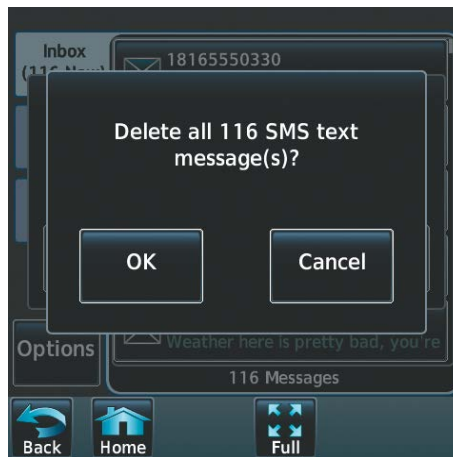

Figure 8-103 Confirm Deletion of Messages
- 3) Touch the **Delete All Messages** Button. A confirmation screen is displayed as in Figure 8-103.